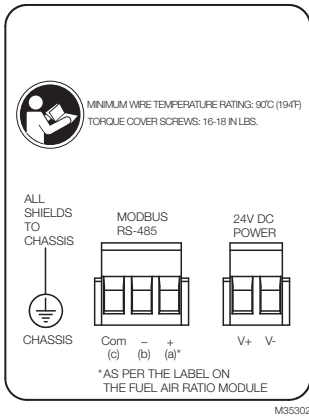

Fig. 4. Wiring terminals.
- All cover screws should be tightened to the specified torque. See Fig. 4.
Fig. 4 indicates each wiring terminal and Table 2 identifies each terminal's signal type and function.